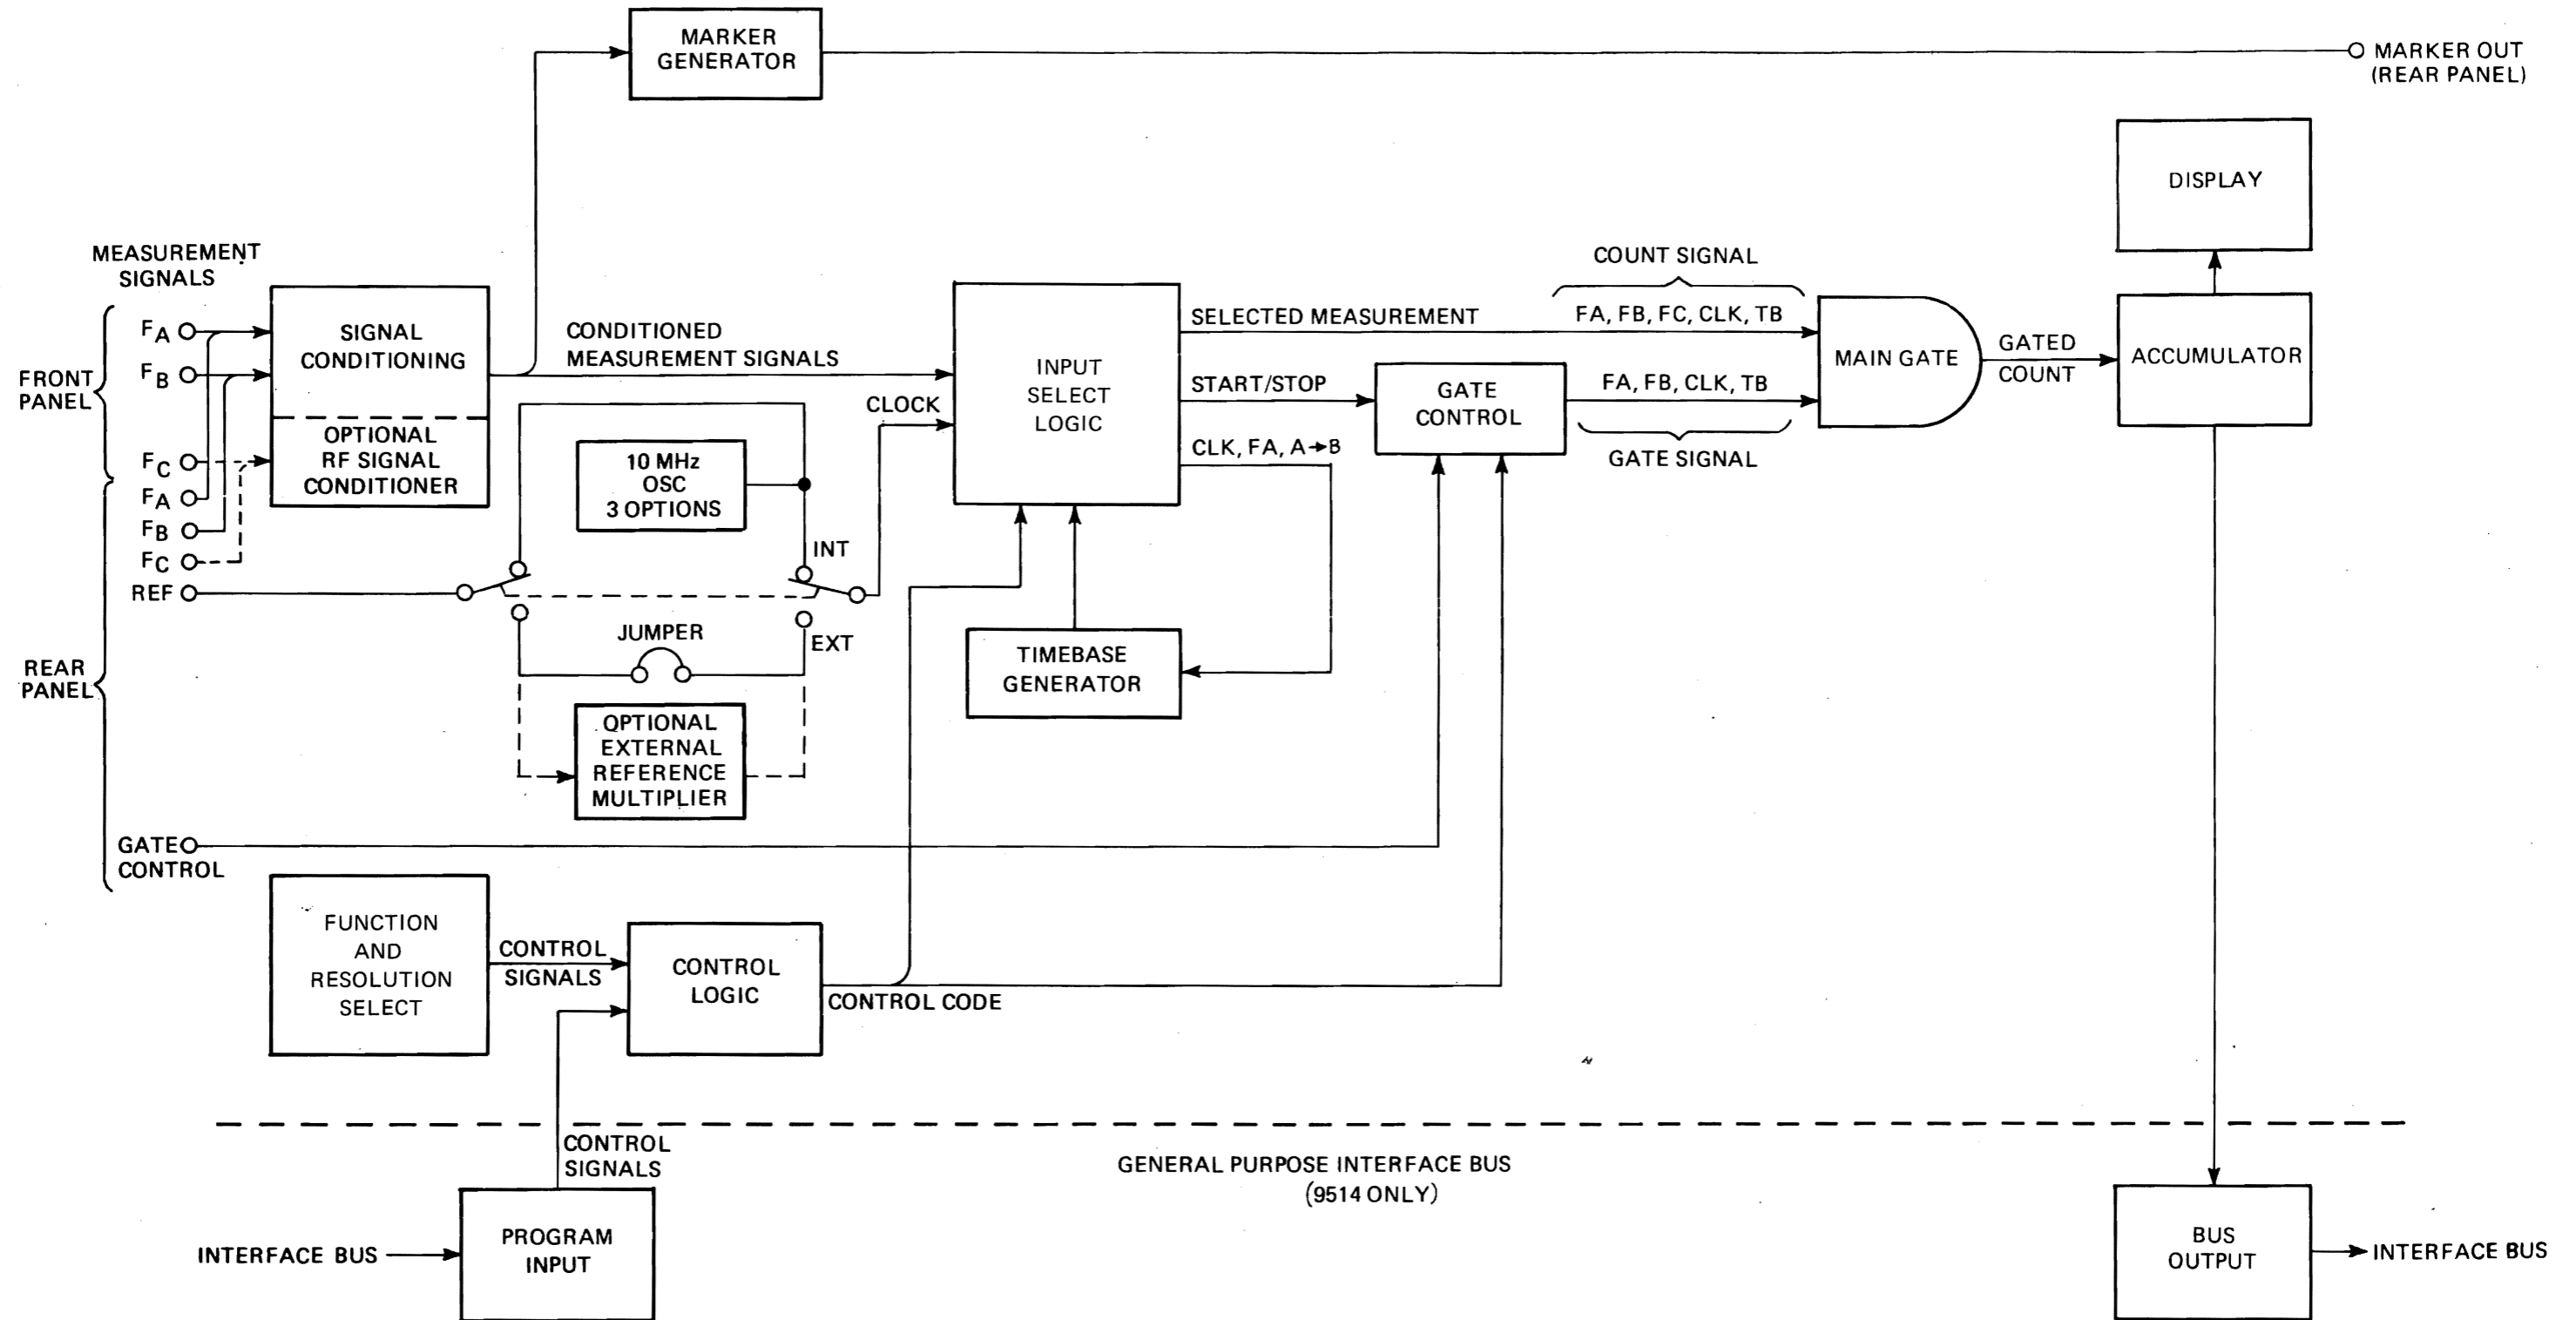

Figure 1.1 - Series 9500 Timer/Counter
1.1.1 The theory of operation in this section is first analyzed in terms of the simplified block diagram shown in figure 1.1; second, the various operating modes are described; and third, individual circuits are described.
1.2.1 The Series 9500 Timer/Counters are shown in block diagram form in figure 1.1. Input signals to be measured can be applied to the signal conditioners through front panel jacks for channels A, B, and the optional RF channel C or through the rear panel to the same channels. Front panel controls or the microprocessor (Model 9514 only) activate the control circuits to make the selected measurement at the selected resolution. Depending on the function selected, either the input signal or the time base signal is routed to the accumulator. Input signals are processed in the signal conditioners to limit the amplitude and convert the signal to a digital signal that is compatible with the counter logic.